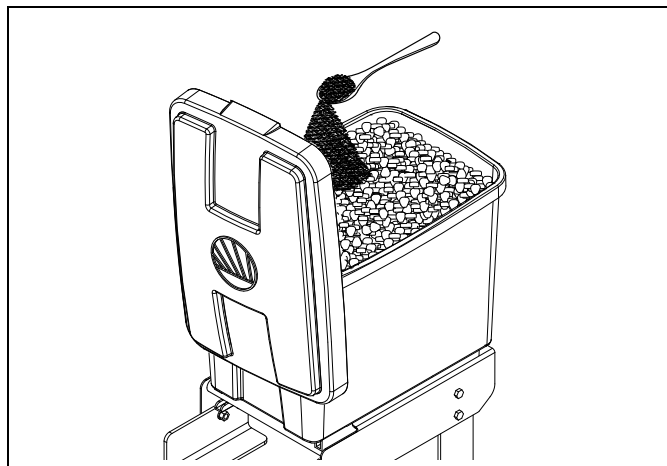

Figure 12
4. Park the lid on the front lip of the hopper, using the hook-plate feature inside the lid (see *Figure 12* on page 24).